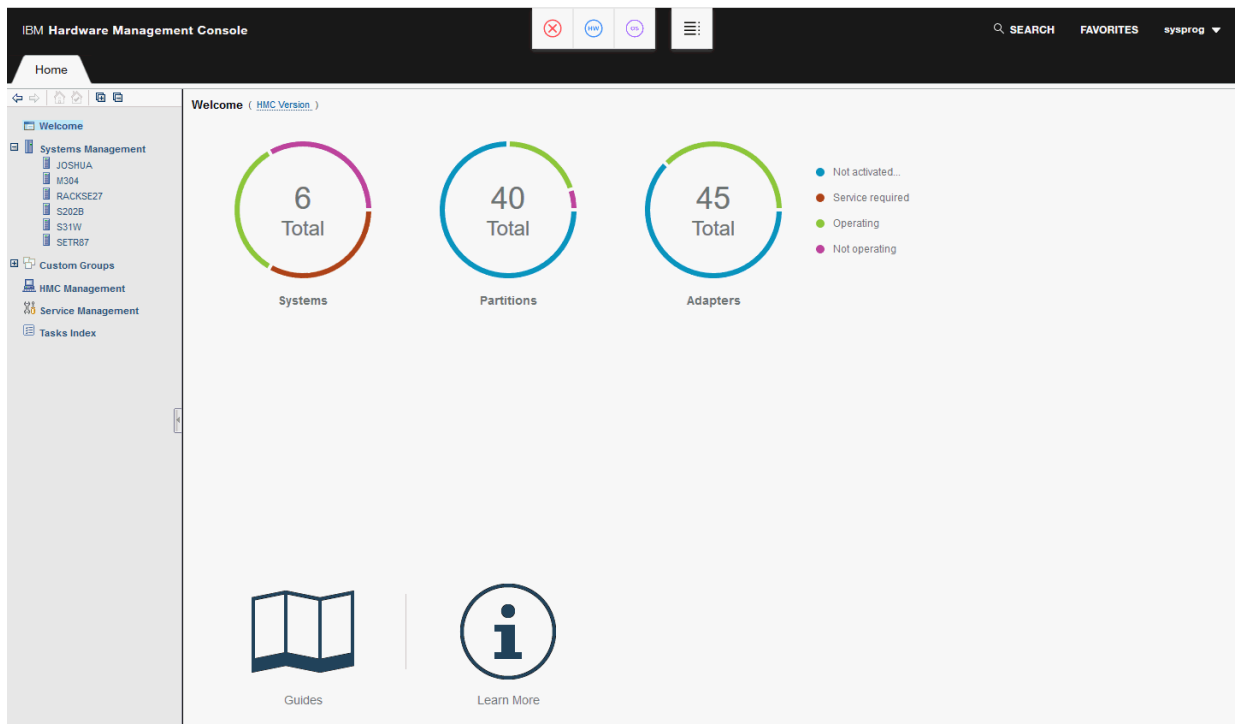

Figure 1. Systems Management expanded
2. From the Hardware Management Console workspace window, in the navigation pane in the left portion of the window, expand **Systems Management** if it is not already expanded. This action displays the systems under **Systems Management**. Figure 1 on page 3 shows this expansion.